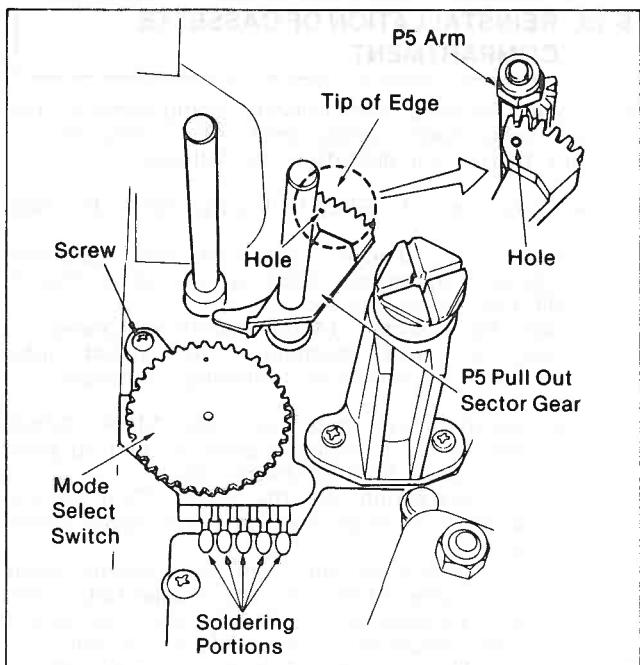

Figure M57
2. Install the P5 Pull Out Sector Gear so that the hole of P5 Pull Out Sector Gear aligns with the tip of edge at P5 gear as shown in Figure M57.